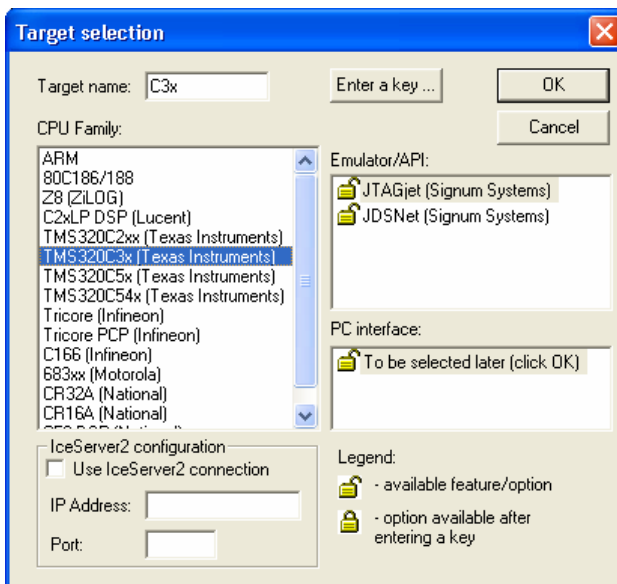

FIGURE 4 Target Selection window.
5. In the Target Selection dialog box, choose TMS320C3x (Texas Instruments) as the CPU Family, and JTAGjet (Signum Systems) as the Emulator/API, as shown in Figure 4.